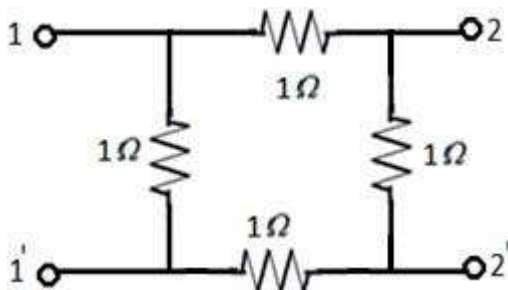

Figure: 5
b) For the network figure 5, determine hybrid parameters. [7+8]